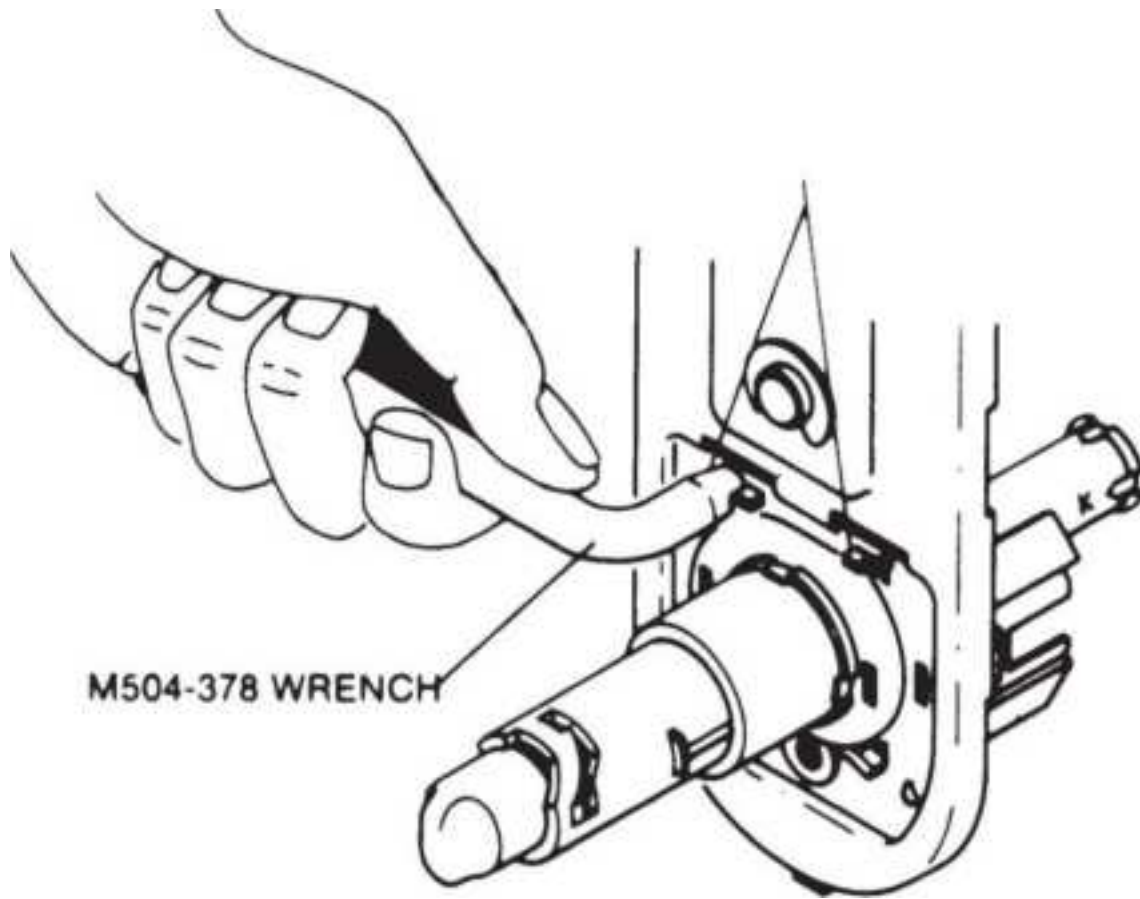

**Figure 13.73** Changing hand, Step 4.
4. With a factory-supplied wrench or long-nosed pliers, straighten the tabs (Fig. 13.73 ).